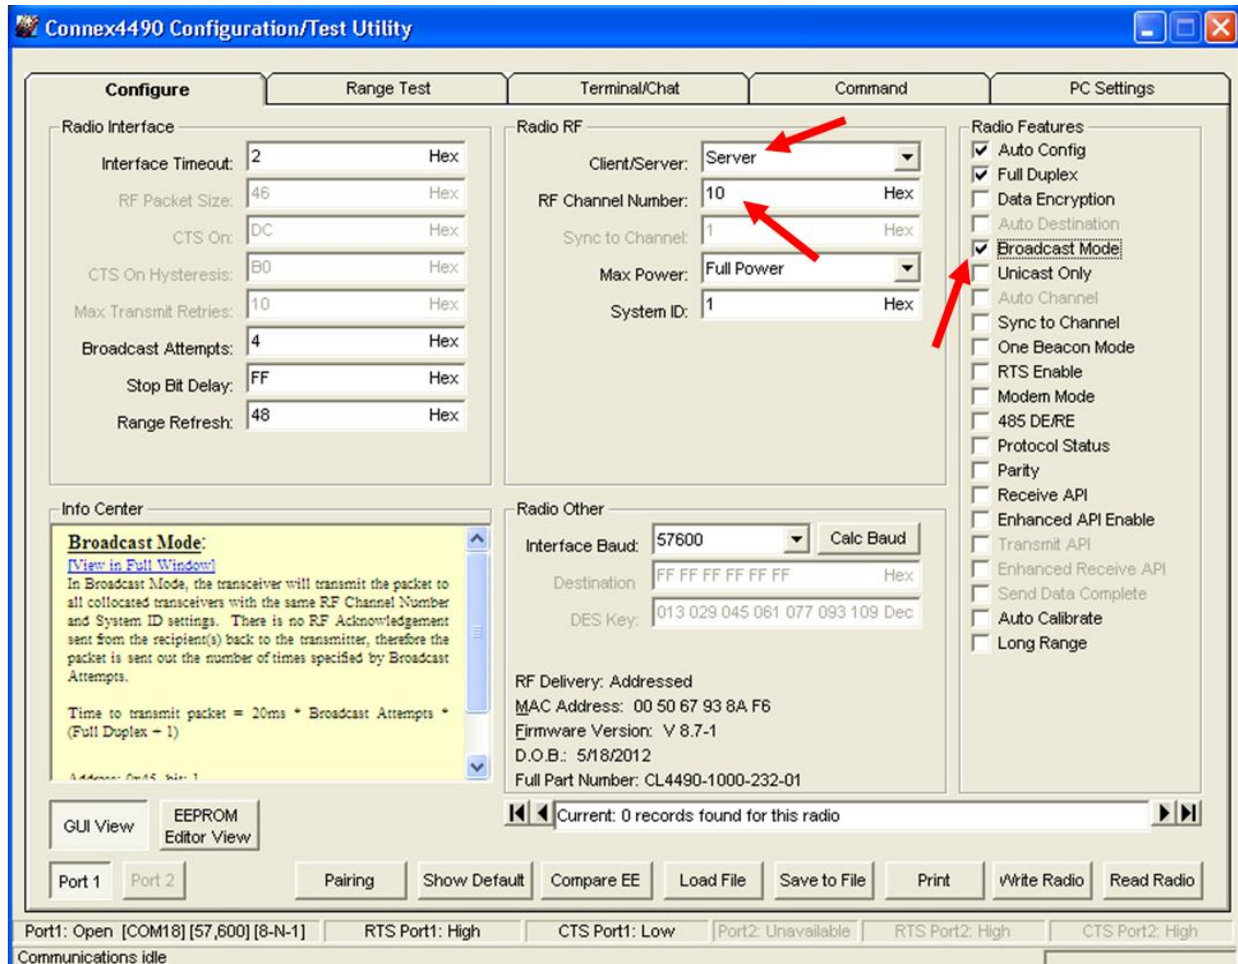

Figure 11: Hop Master settings
- To configure the Hop Master, select **Server** and **Broadcast Mode**. Make note of the RF Channel Number (Figure 11). Once the appropriate changes have been made, click **Write Radio**. A Write Successful prompt appears after a successful write. Note that the values are shown using hexadecimal representation; you may change this to decimal notation by double-clicking on the word "Hex" (it changes to "Dec").